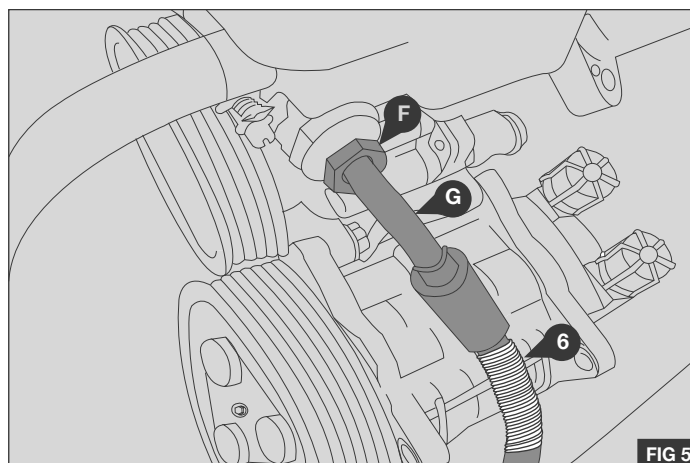

FIG 5
1. Release the power steering pipe nut (F) and turn the pipe (G) to the position shown to allow clearance for the compressor. - Fig.5
2. Fully tighten the power steering pipe nut previously released (F) be careful not to overtighten the nut.
3. Fit the supplied protective sleeve (6) in position shown on the PAS pipe - Fig.5